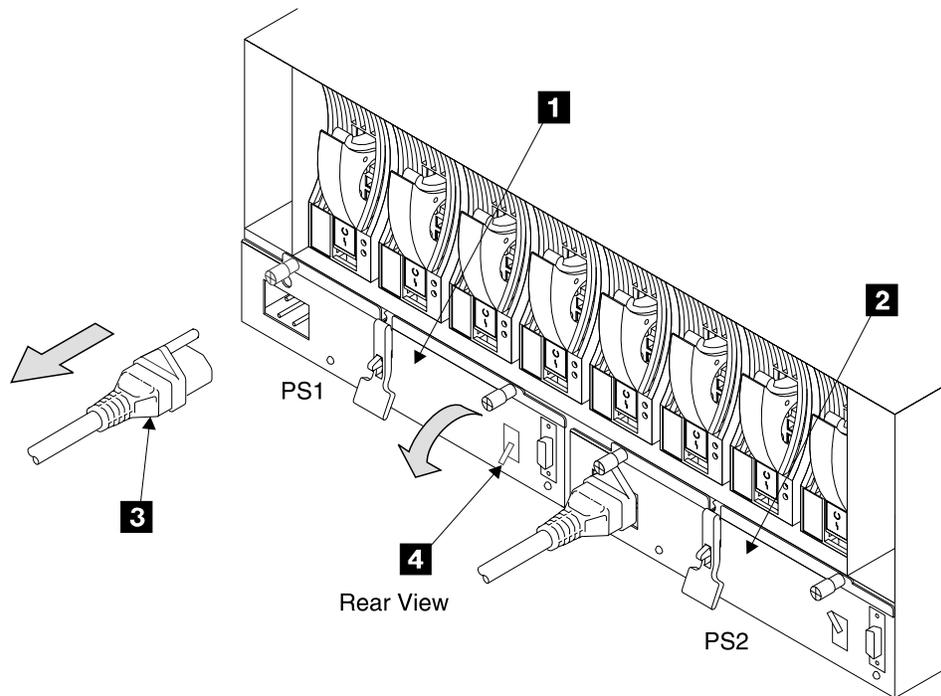

Figure 58. Model 040 Drawer Power Supply Assembly Locations (T007576m)
2. **Attention:** After the new controller card is installed, go to the rear of the drawer. Power both drawer power supplies off, pull both PWR/FAULT RESET switches, **4** in Figure 58 on page 50, out then push them down. Wait 20 seconds. Power both drawer power supplies on, pull the switches out then push them up.